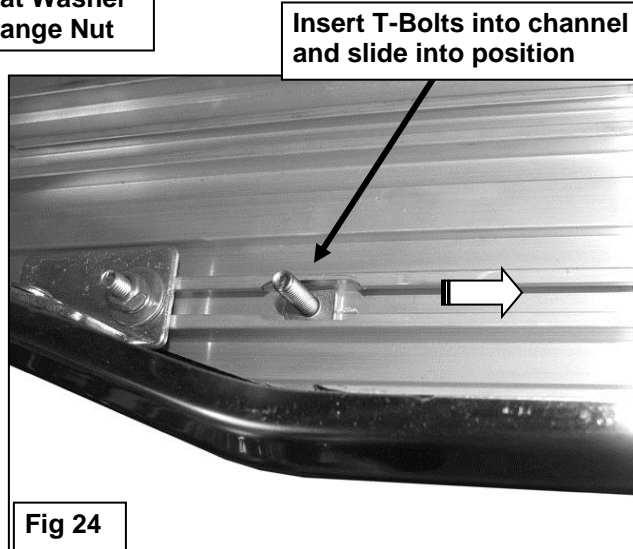

Fig 24
10. Carefully unwrap the Running Boards and select the driver side. Insert (6) 6mm T-Bolts into the slots in the end of the channels, (3 T-Bolts per channel), on the bottom of the Running Board, **(Figure 24)**. Hold the Running Board up in approximate position and slide the T-Bolts down to line up with the Mounting Brackets. Tilt the Board up at a slight angle and push back against the vehicle until the T-Bolts fit into the slots on the Brackets. Attach the Board to the Brackets with (6) 6mm Flat Washers, (6) 6mm Lock Washers and (6) 6mm Hex Nuts, **(Figure 25)**. Do not tighten hardware at this time. **NOTE:** the Running Board is designed to fit close to the vehicle. It may be necessary to temporarily loosen the Bracket hardware and tilt the Brackets downward to insert the Running Board.